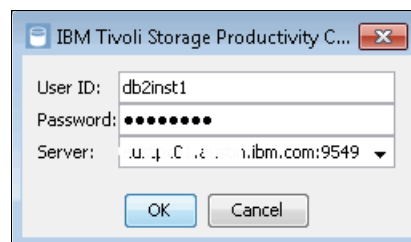

Figure 11-85 Tivoli Storage Productivity Center login access
3. Use your login credentials to access Tivoli Storage Productivity Center, as shown in Figure 11-85.